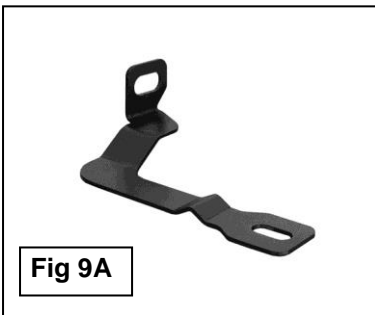

Fig 9A
3. Select the driver side Top Support Brace, **(Figure 9A)**. Remove the factory hex bolt in the radiator mount. Bolt the Support Brace in place with the factory hex bolt, **(Figure 9B)**. Leave loose at this time.